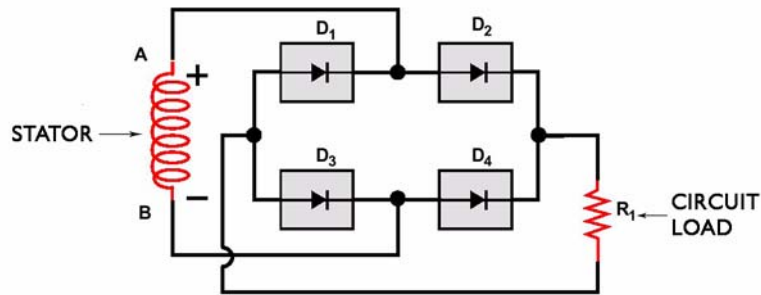

Figure 17 - Simple Diode Rectifier Bridge
Rectifiers change alternating current (AC) to direct current (DC). Several diodes can be combined to build a diode rectifier, which is also called a rectifier bridge (Figure 17).
Study Figure 17 in terms of conventional theory. The stator voltage is alternating. That means the voltage at A alternates between positive and negative. When the voltage at A is positive, current flows from A to the junction between diodes D1 and D2. Notice the direction of the arrows on each diode. Current can't flow through D1, but it can flow through D2. The current reaches another junction, between D2 and D4, but again the current cannot flow through D4, nor can it return through D2. The current must pass through the circuit load because it can't flow through D4 or D2.